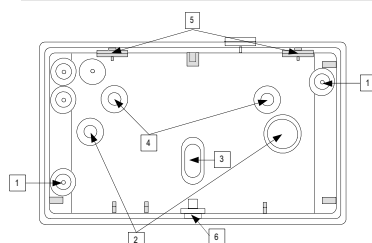

Fig 7. Wireless VITRON Mounting Knockouts
2. Open the required mounting knockouts, according to the type of installation (corner, flat or swivel mounting, see Fig 7)
4. If a back tamper protection is required open the back tamper knockout (3, Fig. 7)
2. Open the swivel mounting adaptor knockouts (4, Fig 7).